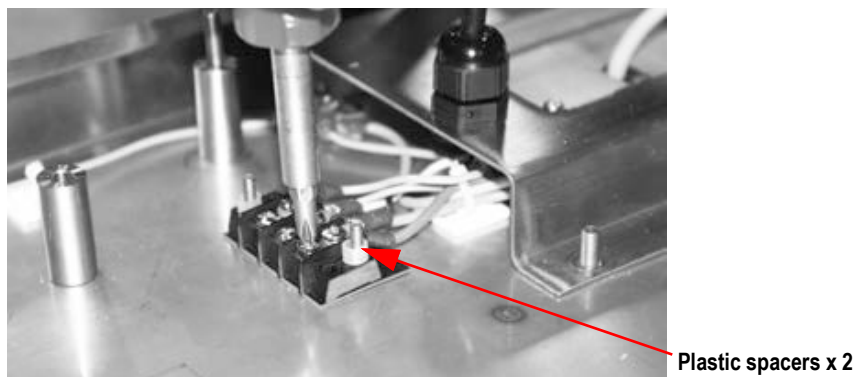

Figure 5-9. Remove Open Terminal Screws
6. Remove the terminal strip nuts that are holding down the clear terminal strip cover using a 5/16" socket. Set the clear plastic terminal strip cover aside and ensure that the plastic spacers do not get lost. See Figure 5-9.